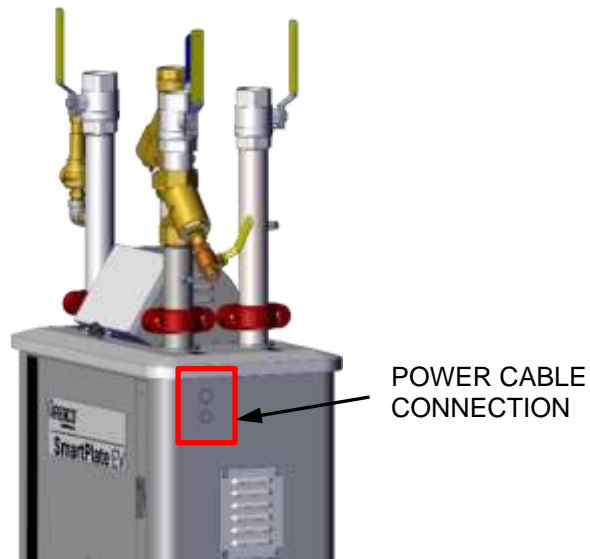

Figure 2.6-1, Power Cable Connection
1. Refer to Table 2-1, below, and connect the appropriate wire leads to the Temperature Controller terminals listed. Refer to the Temperature Controller pinouts shown in Figure 2.6.1 to locate the required terminals. Also, refer to Appendix A for instructions on how to change the Temperature Controller Modbus address, a listing of active Modbus data addresses for the Controller, and how to change the baud rate. In addition, the documents referenced in this Appendix provide additional communication information related to Modbus.